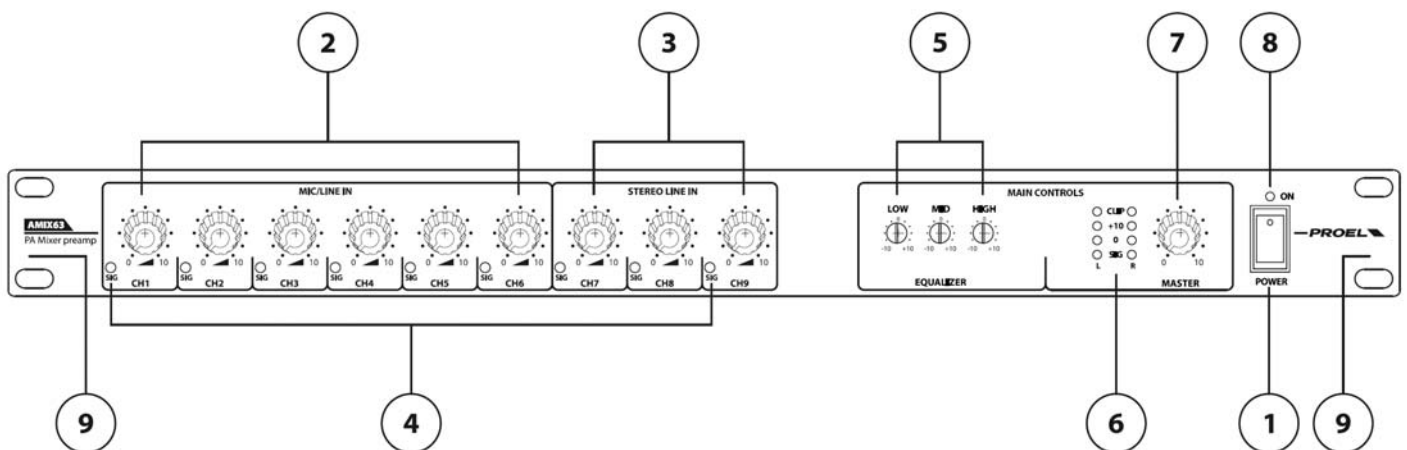
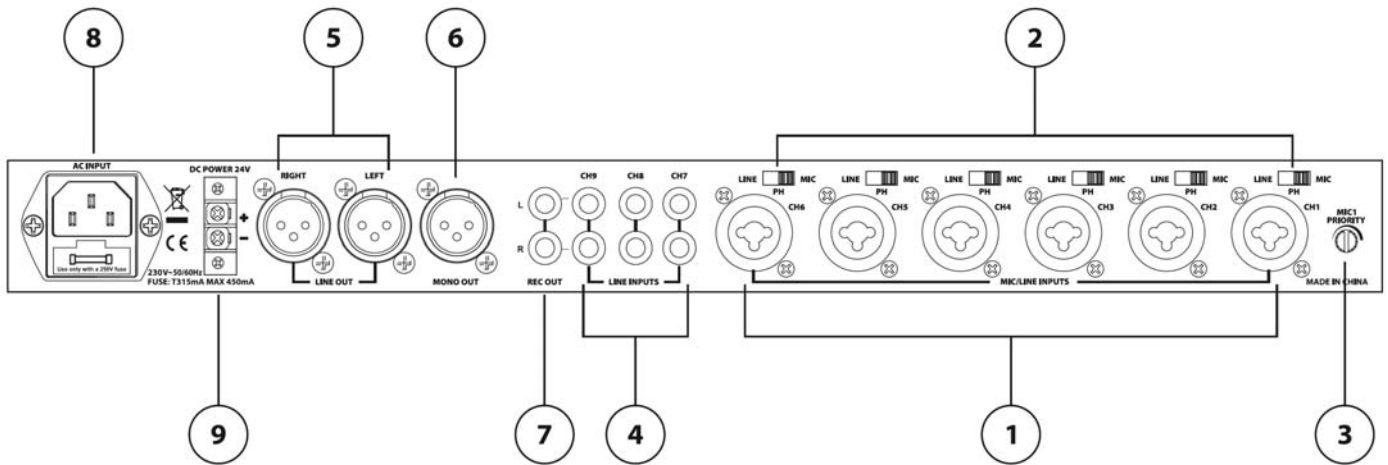

fig.1
fig.2
Adjusts levels on L, R e MONO OUT outputs (fig. 2; ref. 5, 6)
Each single stereo input can be used to connect two line inputs from two sources (e.g. two microphones); both, however, will be managed by the same level control (fig.1, ref. 3)
- a. Turn the power switch to the ON position (fig. 1, ref. 1).
- b. Connect the audio sources to the rear panel inputs (fig. 2, ref. 1, 4).
- c. For inputs 1-6, set the LINE/MIC PH/MIC switch (fig. 2, ref. 2) according to the type of source connected. Position the switch to **LINE** when connecting line-level signals (CD players, AM/FM tuners, etc), to **PH** to connect phantom-powered microphones (electret/condenser) and to **MIC** for dynamic microphones.
- d. Each input channel features an independent volume control (fig. 1 ref. 2, 3).
- e. Check the presence of a signal on each channel using the SIG LED. (fig.1, ref. 4).
- f. Adjust the level of L - R (fig. 2, ref. 5) and MONO OUT (fig. 2, ref. 6) outputs using the MASTER knob (fig. 1, ref. 7). Adjust this potentiometer so that the CLIP indicator remains unlit if you want a good listening level without distortion.